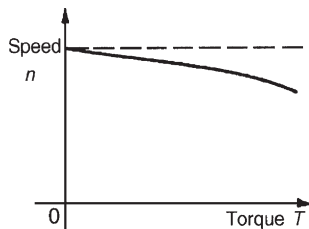

Figure 22.19
- (iii) Since torque is proportional to armature current (see (i) above), the theoretical speed/torque characteristic is as shown in Fig. 22.19.